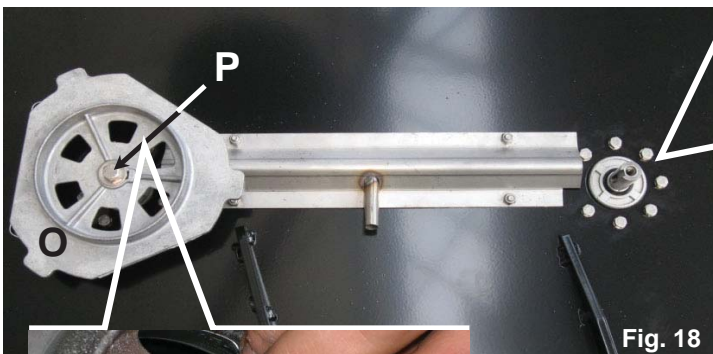

Fig. 18
- 8 Connect the ammeter clamp around one of the wires **B** as shown in Figure 18.
- 12 Read the **CURRENT (A)** drawn by the suction motor.